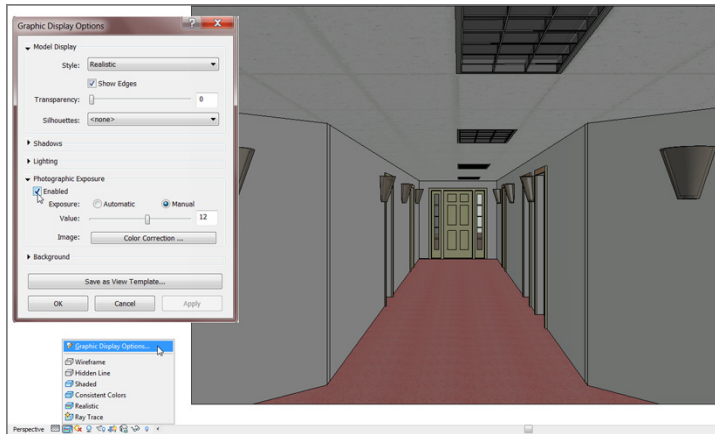

FIGURE 9.51: Looking at the hallway in a perspective view
7. In the Project Browser, double-click the 3D view called East Wing Corridor Perspective. This gives you a good idea of how the up-lighting influences the corridor (see Figure 9.51).
8. On the View Control toolbar, click the Visual Style Icon, and choose the Graphic Display Options choice at the top of the dialog, as shown in Figure 9.51.